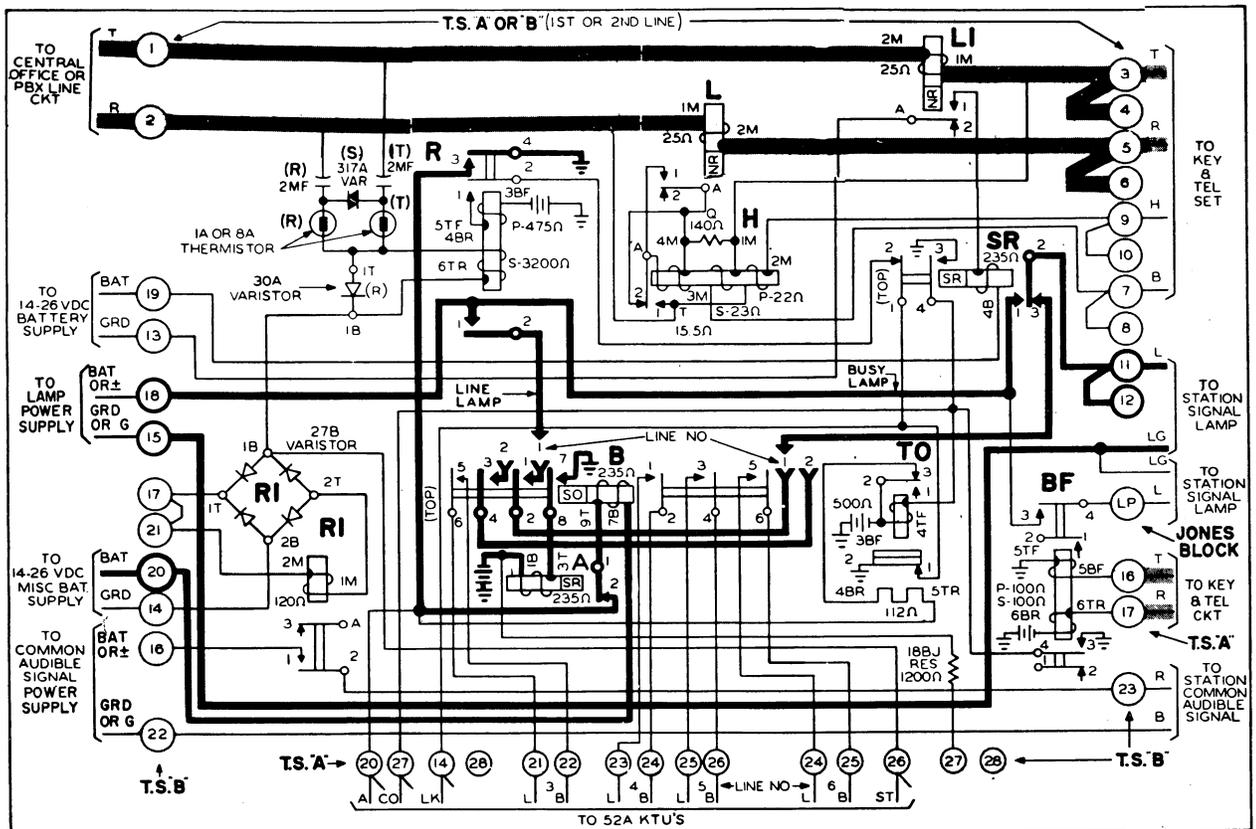

Fig. 2 Combined Line and Busy Lamp Circuits - 51AKTU
- (b) Fig. 2 Combined Line and Busy Lamp Circuit for 51A KTU.